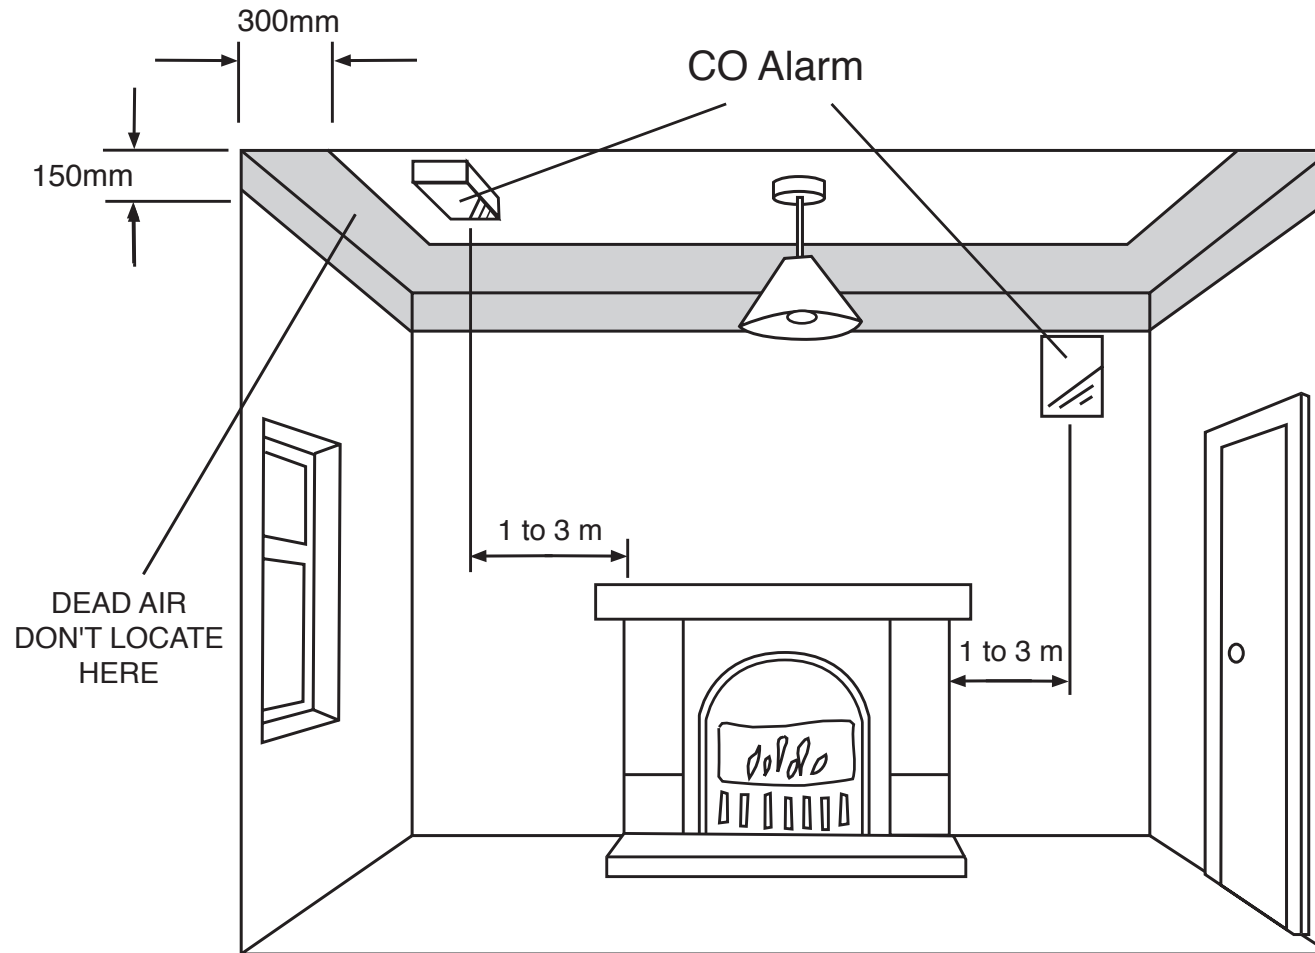

Figure 2. Location in room with a fuel burning appliance
3.3 If locating the CO alarm in a room with a fuel burning appliance (see figure 2)